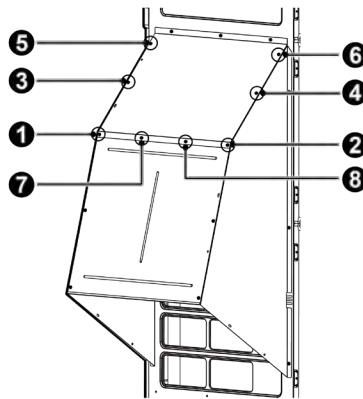

Fig. 3.12
(1) Please refer to Fig 3.12 for the installation location and sequence of screws.